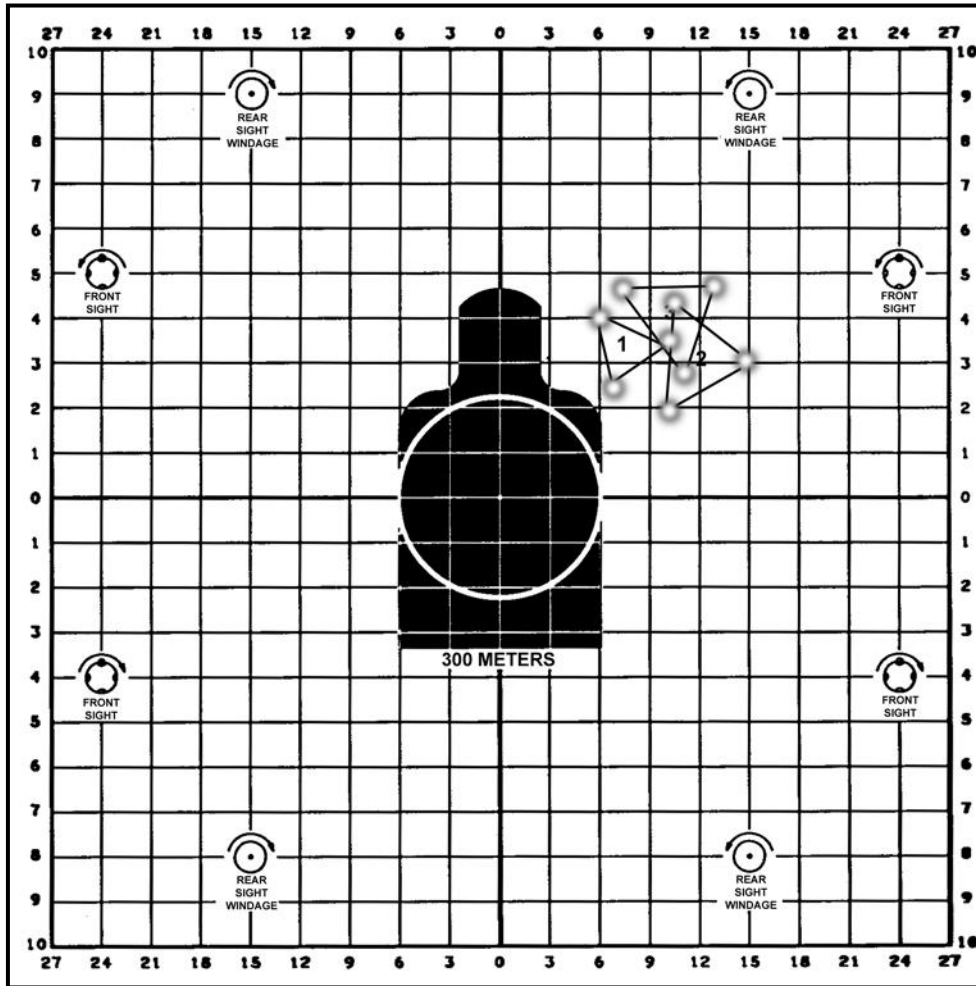

Figure 5-11. Acceptable shot grouping performance.
(1) *Acceptable Shot-Grouping Performance.* The shot groups in Figure 5-11 represent acceptable shot groups (4 centimeters or less) in the same location. A soldier firing this shot grouping should make a sight change of left 10 and down 4. Any change should be clearly marked on the target and saved for reference. The soldier would then be ready to zero his weapon.